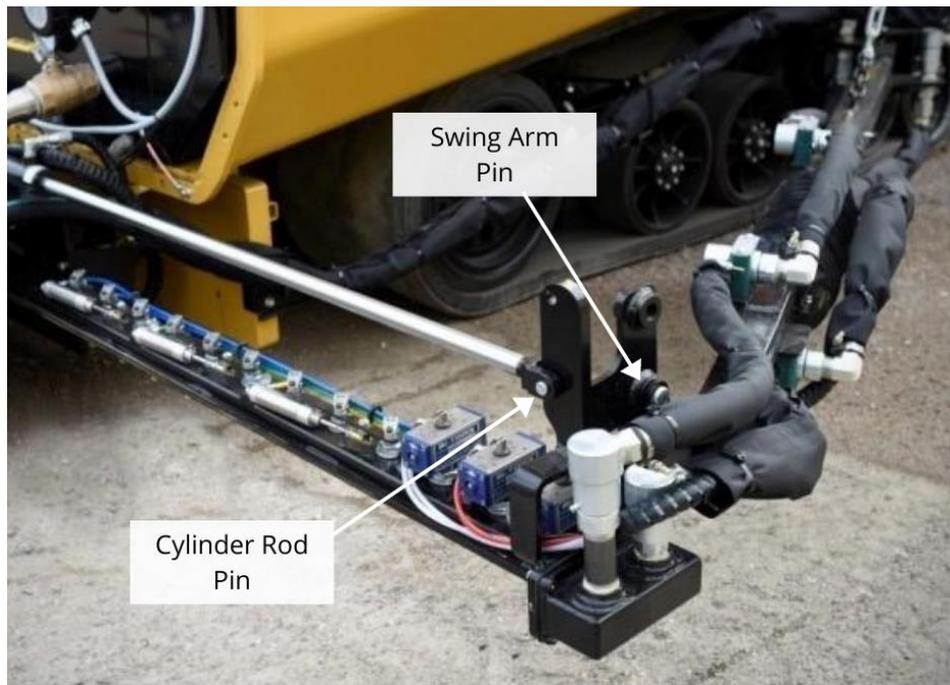

Figure 13: Telescoping spray bar cylinder rod pin
- c. Remove the pins that attach the cylinder rods and swing arms to the ends of the telescoping spray bars (see Figure 13).